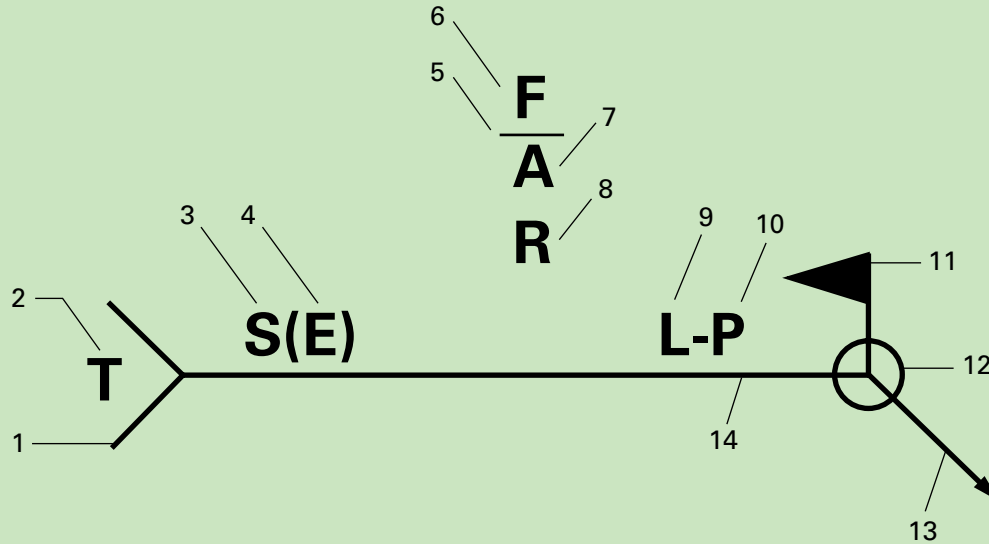

Figure 1
- Match each of the terms listed below to the number that identifies the corresponding welding symbol shown on *Section Review Question Figure 1*.